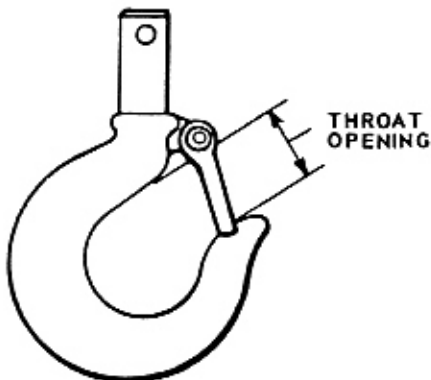

FIGURE 4-1. HOOK THROAT OPENING.
a. Inspect the hooks for deformations, chemical damage or cracks. Hooks damaged from chemicals, deformation or cracks, or having throat openings greater than 1.15 inch must be replaced. See figure 4-1. If the hook is twisted more than 10 degrees from the unbent hook, it must be replaced.